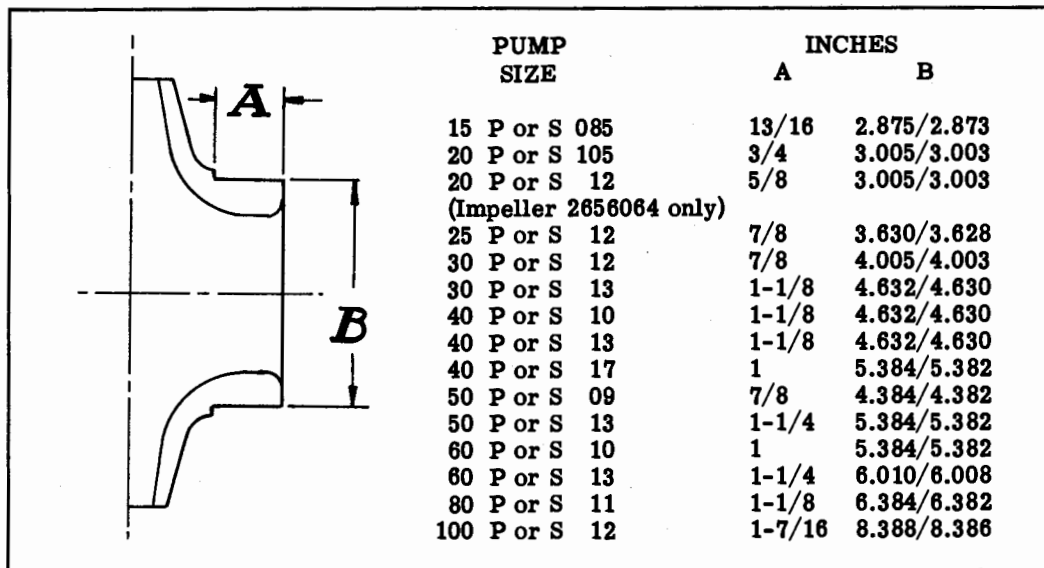

FIGURE 3. IMPELLER DIMENSIONS FOR WEAR RING INSTALLATION
- (1) Before installing wear ring, machine the OD of the impeller skirts to the dimensions in figure 3.
- (2) Heat wear rings to a temperature that will enable the ring to drop onto the machined impeller skirts.